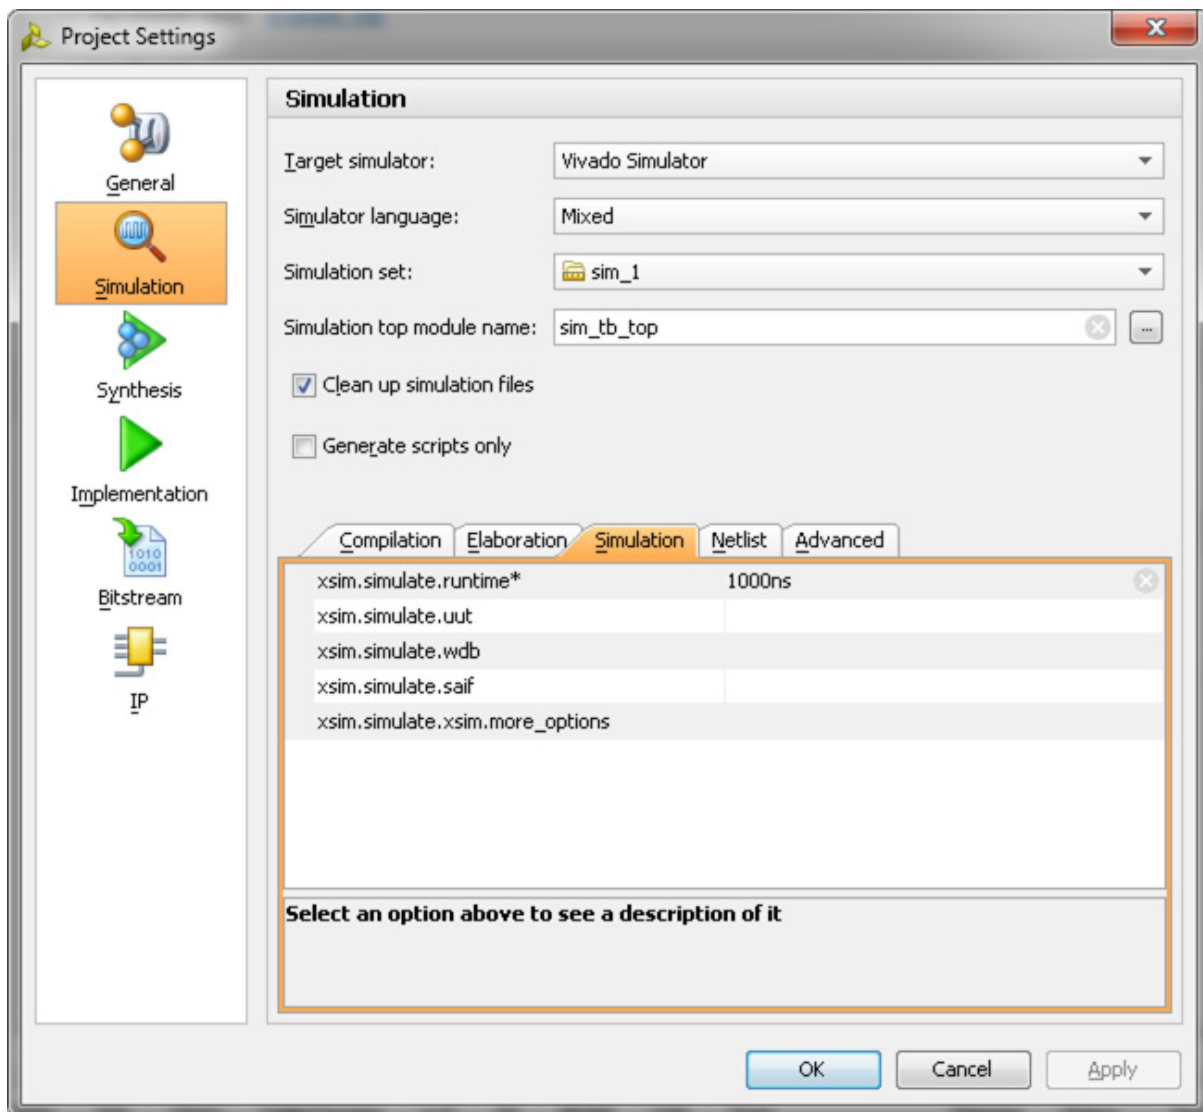

Figure 3-63: Simulation with Vivado Simulator
1. In **Open IP Example Design** Vivado project, under **Flow Navigator**, select **Simulation Settings** (Figure 3-63).
2. Under the **Simulation** tab as shown in Figure 3-63, set the `xsim.simulate.runtime` as 1 ms (there are simulation RTL directives which stop the simulation after certain period of time, which is far less than 1 ms). Apply the settings and select **OK**.
- b. Under the **Simulation** tab, set the `modelsim.simulate.runtime` to 1 ms (there are simulation RTL directives which stop the simulation after certain period of time, which is far less than 1 ms), set `modelsim.simulate.vsim.more_options` to **-novopt** as shown in Figure 3-63.